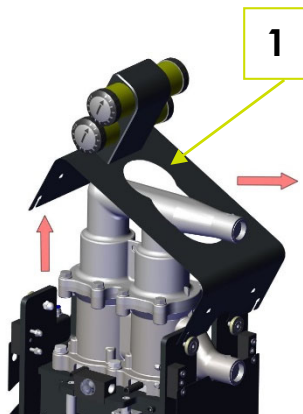

Fig. 4-6: Dismounting the top Cover
5. Dismount the top Cover (1) in the direction of the arrow (Fig. 4-6: Dismounting the top Cover).